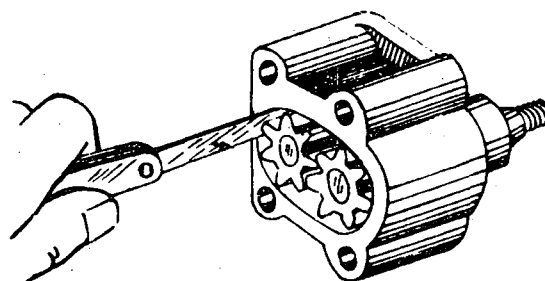

Fig. 4
- b) Measure the radial play of the gears (Fig. 4).